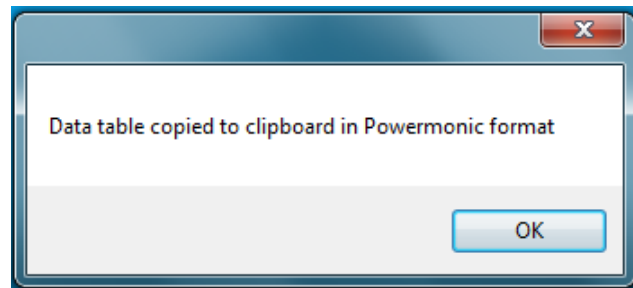

Figure 2.12.6.1
Step 1: Click on the 'Export to LoggerView' button. A message window popup appears as shown in figure 2.12.6.1.